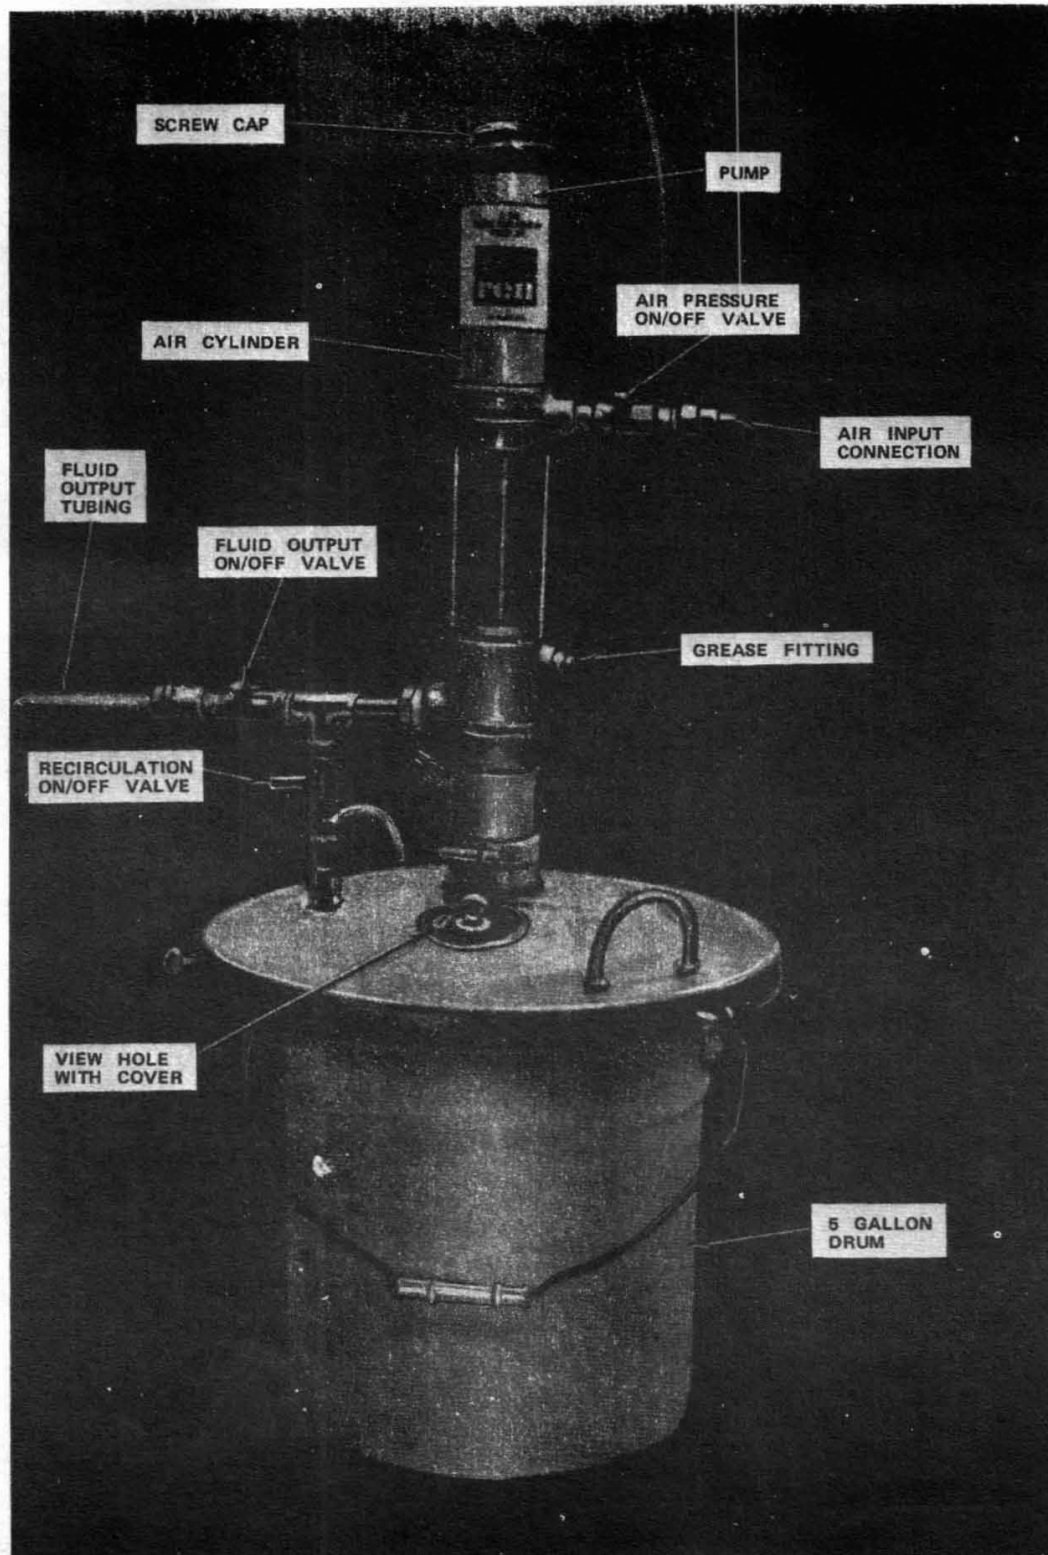

Fig. 6—G 810 REN Cable Reclamation Pump
**4.03** The G 810 REN pump kit (Fig. 6) consists of a reciprocating pump, drum, lid, nylon fluid output hose (with adaptors), and a nylon recirculation hose.
**4.05** Three valves are provided on the pump, one to control the input pressure, one to control the recirculation of the reclamation compound, and the third controls the material flow into the cable (see Fig. 6).